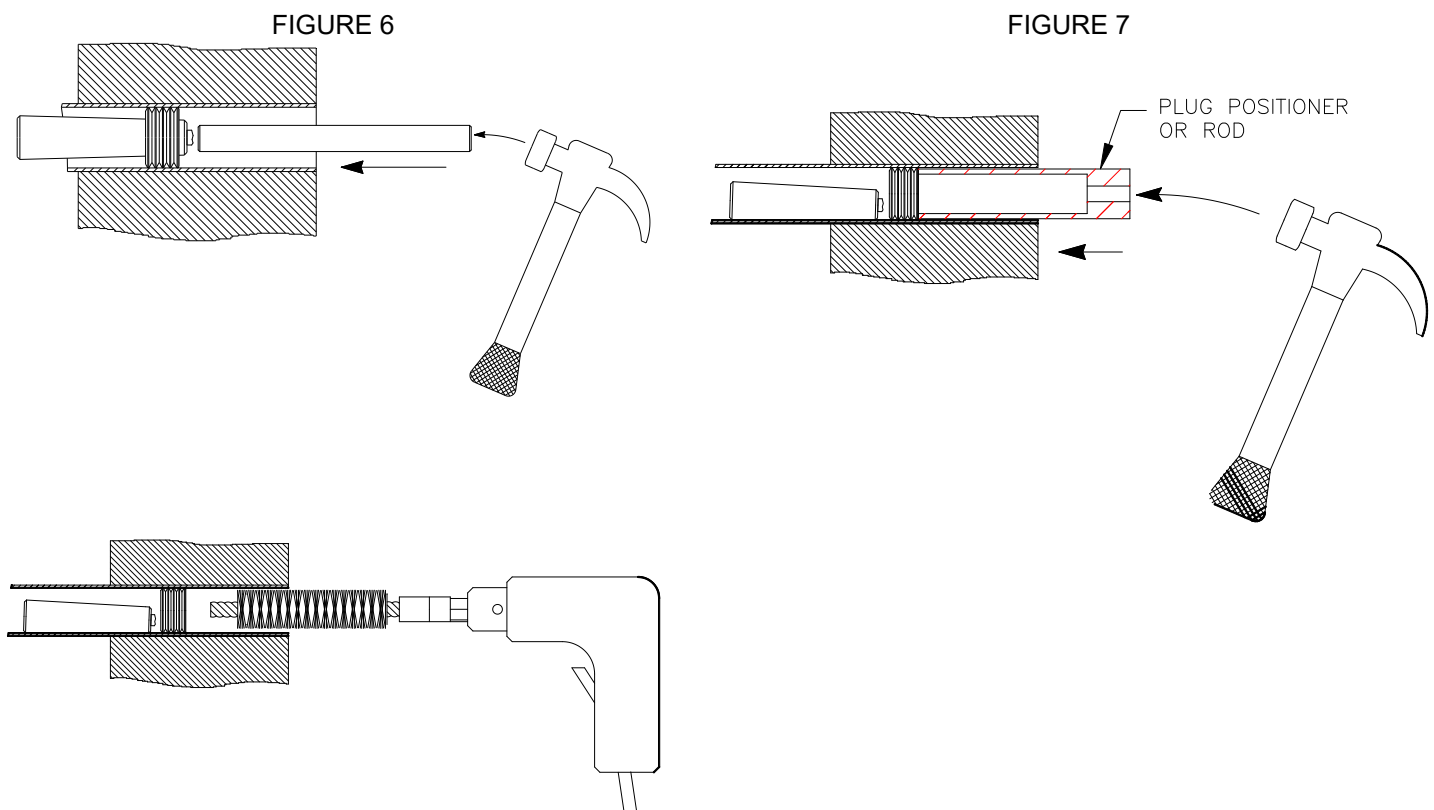

FIGURE 8
4. It may be necessary to brush the tube area in front of the ring to remove any fouling/scale that may have accumulated during service using a tube prep brush (available from EST). This will allow the ring to be removed from the tube with less obstruction. (Figure 8)